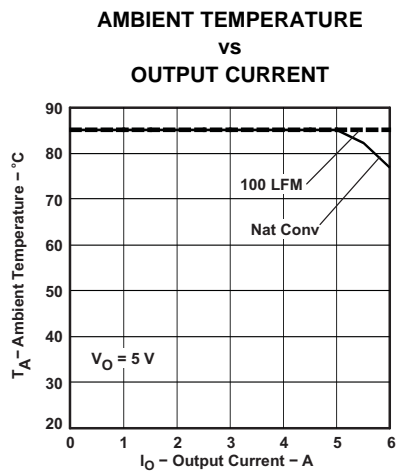
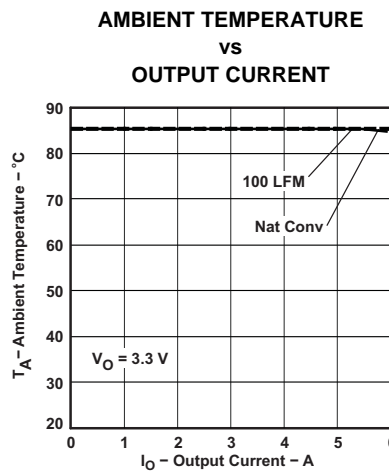
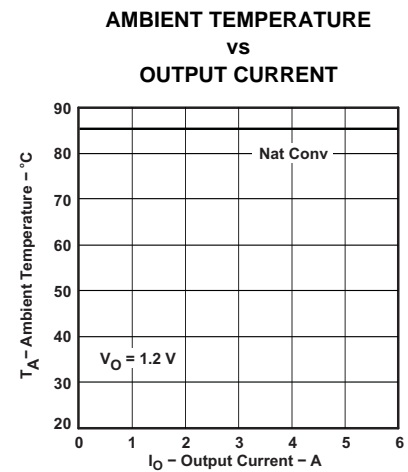

Figure 4.
Figure 5.
Figure 6.
- (2) The temperature derating curves represent the conditions at which internal components are at or below the manufacturer's maximum operating temperatures. Derating limits apply to modules soldered directly to a 100 mm x 100 mm double-sided PCB with 2 oz. copper. Applies to Figure 4, Figure 5 and Figure 6.